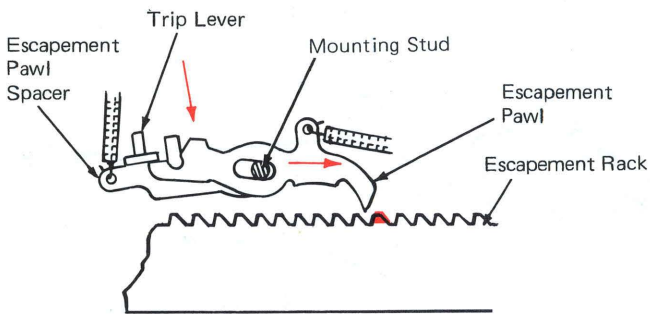

Figure 3 – Escapement Pawl Pivoted Out Of Rack
2. The escapement pawl pivots about the mounting stud until the pawl tip is out of the rack (Figure 3).